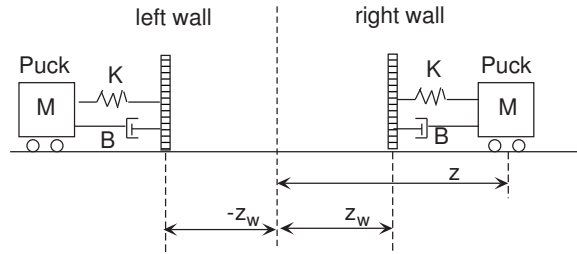
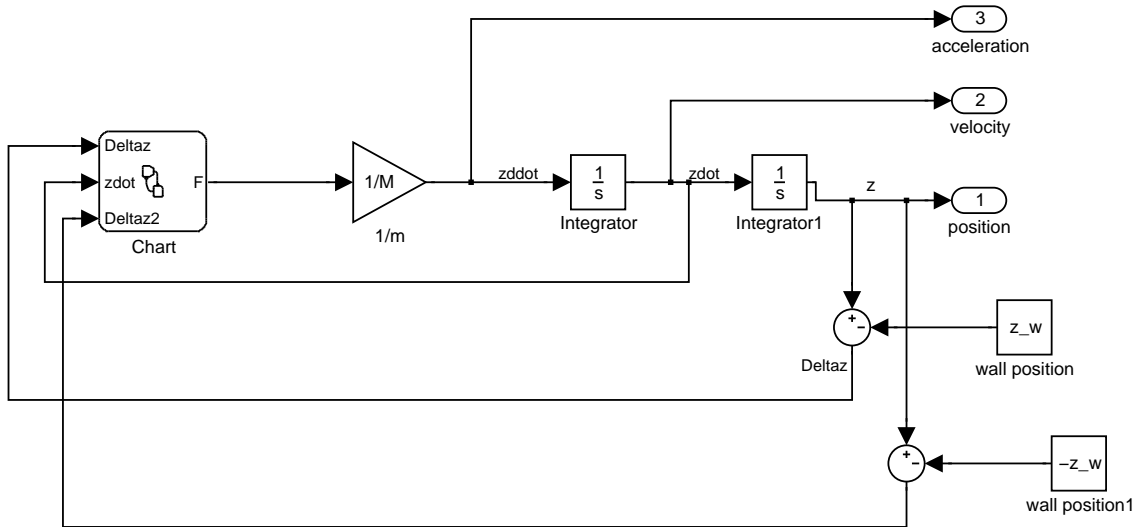
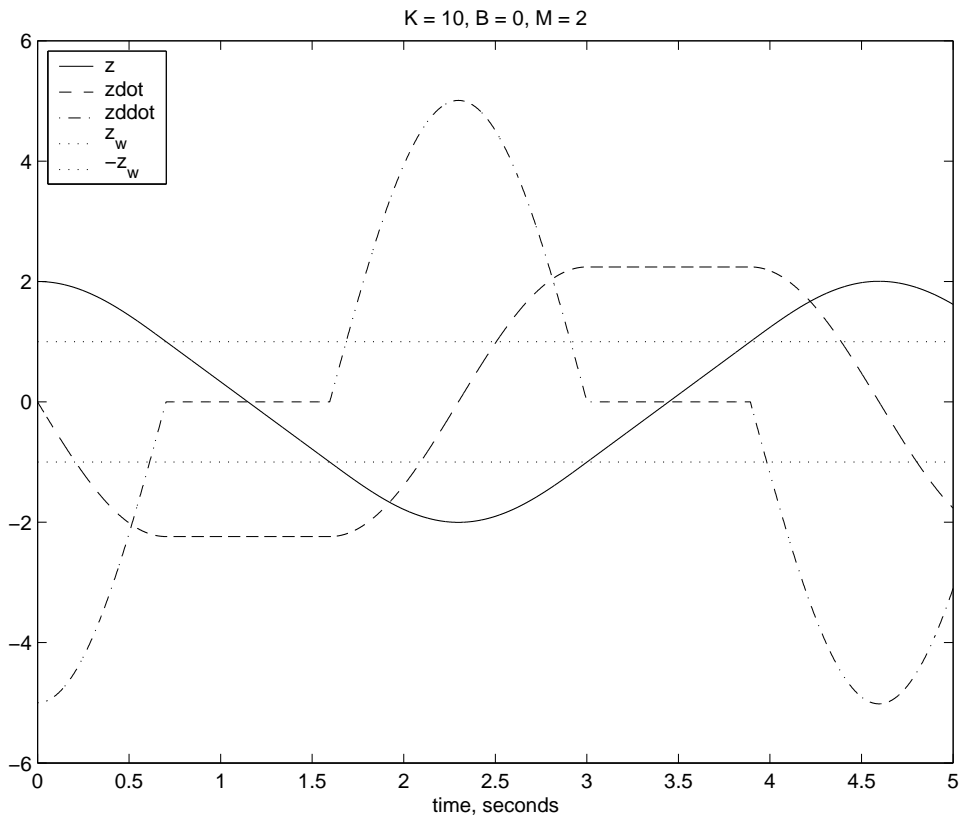

Figure 5: Two Virtual Walls
Figure 6: SIMULINK model of puck trapped between two virtual walls
Figure 7: Response of puck to two walls
- (b) Modify the Matlab, Simulink, and Stateflow files you used above to model what happens when the puck must move between *two* virtual walls, as depicted in Figure 5. When the puck is inside either wall, it will experience the restoring force of the appropriate spring and damper. When the puck is between the walls, it will experience zero force. It is assumed that the puck has initial condition inside the right wall. The Simulink file you will use should look like that in Figure 6. Hand in: a copy of the Stateflow block that goes with Figure 6 and a plot of the response of the puck for $B = 0$. (The latter response should look like that in Figure 7.)